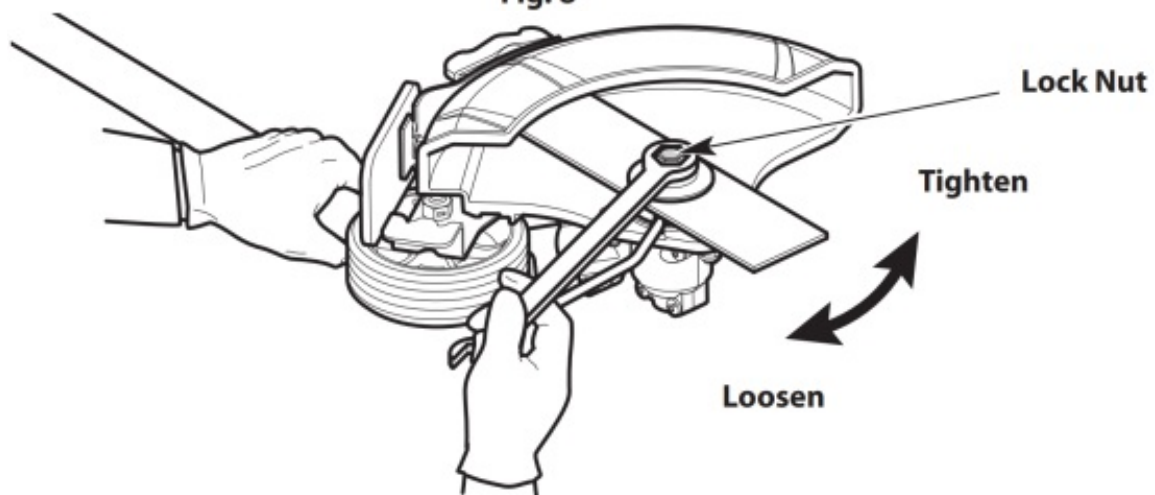

Fig. 9
3. While holding the locking rod, loosen the lock nut by turning it clockwise with a wrench (Fig. 9).
6. While holding the locking rod, tighten the lock nut by turning it counterclockwise (Fig. 9). Make sure that the blade stays flat and centered against the output shaft while tightening the lock nut. If you have a torque wrench, tighten the lock nut to 325-335 in•lbs (37-38 •m). If you do not have a torque wrench, tighten the lock nut with a wrench, until the lock nut presses against the blade retainer and the blade is snug. Make sure the blade is installed correctly, then rotate the nut an additional 1/4-1/2 turn.